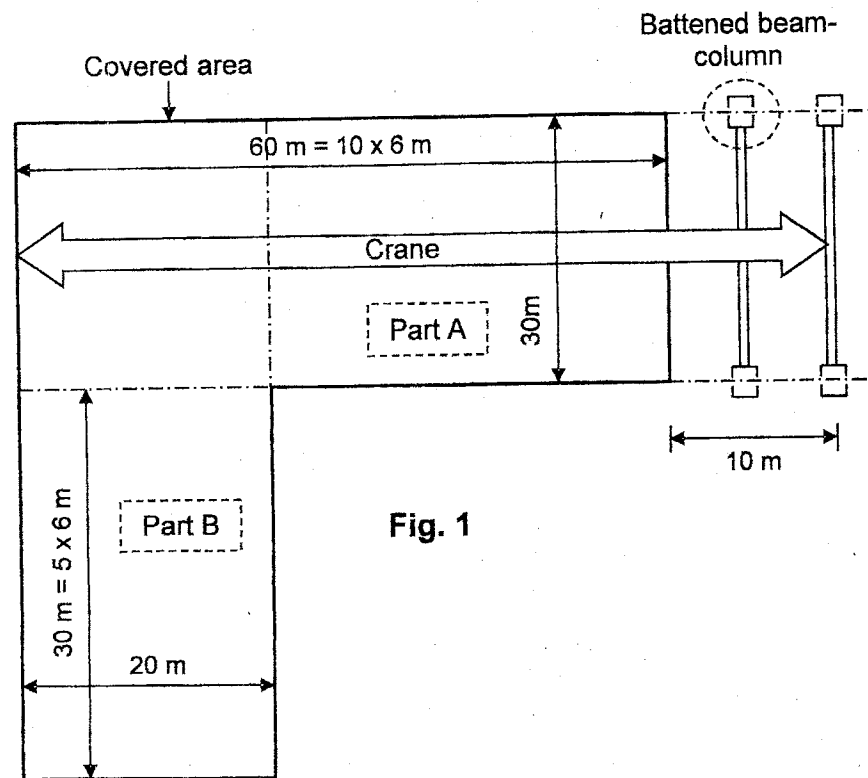
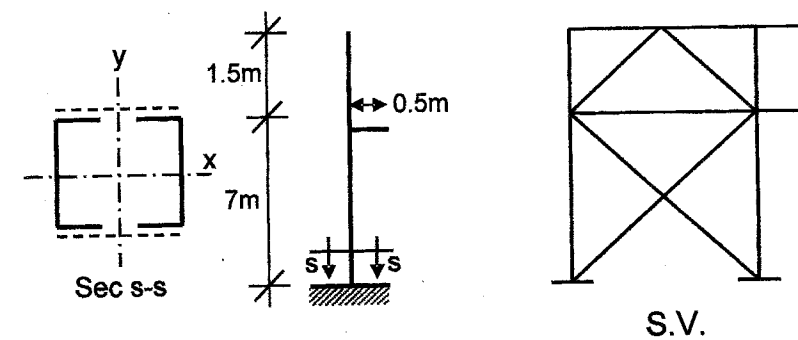
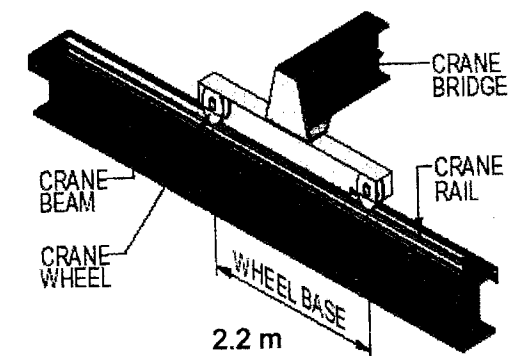

Fig. 1
Fig. 2
Fig. 4 Crane track girder
An industrial factory, covering the area shown in Fig. 1, is to be covered. The factory contains of two parts; Part A and B. Part A contains a crane moving in the direction shown in the figure. The columns are allowed at the outer edges of the covered area as well as the edge between both areas, as shown in the figure. The crane is going to carry the raw materials from outside the factory with an extension of 10m (**the extension part is not covered**). The cross-sections of the columns in this extension are made from battened beam-column members composed of two channel sections. The clear height of the columns in the covered area should not be less than 10 m. It is required to draw the layout to an appropriate scale, showing all bracing systems, of the suggested steel structure.
The **battened beam-column members** shown Fig. 1, assuming the following side view (S.V.) of Fig. 2, is to be built. The straining actions at the critical section of the column (s-s) are $N_u = 35 t$, $M_u = 15 t.m$ and $Q_u = 5 t.m$. The steel used is St 52. It is **only** required to:
- It is required to design a crane track girder (crane beam) as shown in Fig. 1 and Fig. 4. Use the following data: